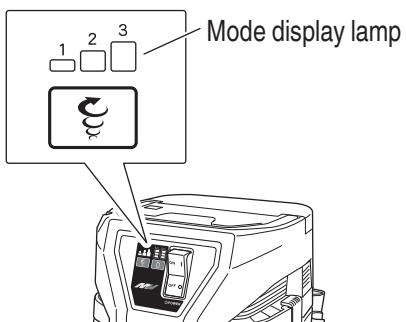

Fig. 32
10. LED light warning signals (Fig. 32)